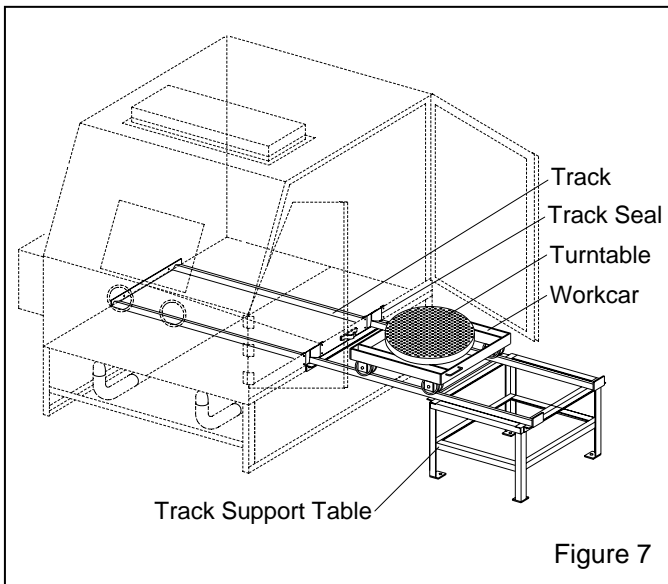
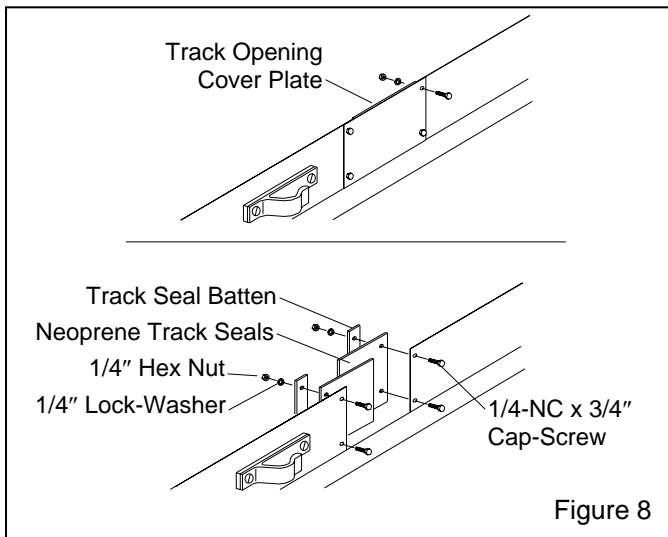

Figure 7
Figure 8
3.3.1.1 These instructions cover field installation for 500 lb. capacity workcar and track assemblies. If the track was ordered with the cabinet, it is partially assembled at the factory. Disregard the instructions that do not apply. See Figure 7 for arrangement of the major components.
3.3.3.2 Being careful not to damage the track seals, lay the track assembly in the cabinet as shown in Figure 7. Align the mounting holes in the track support table with the track cross supports as shown in Figure 8. Secure with 3/8-NC x 1" cap-screws, lock-washers, and nuts.
3.3.2.1 Remove both track opening cover plates, and replace them with track seals as shown in Figure 8.